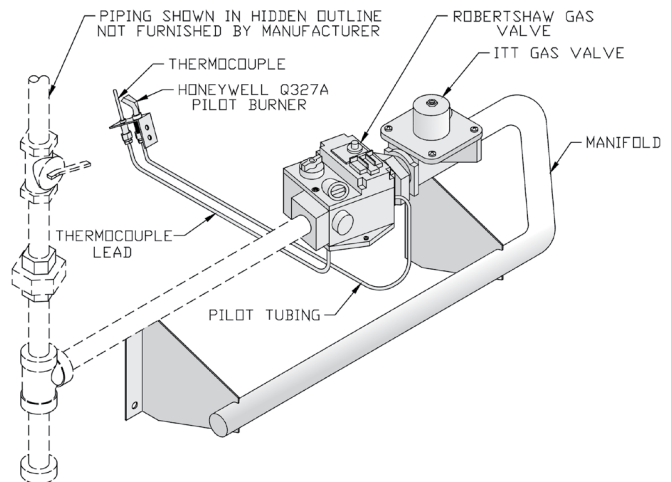

Figure 11: Pilot and Gas Piping, Continuous Ignition (Standing Pilot) (IN10 through IN12 Only)
H. Install Gas Valve on main gas burner assembly (if not factory assembled). See Figure 11, 12 or 13.